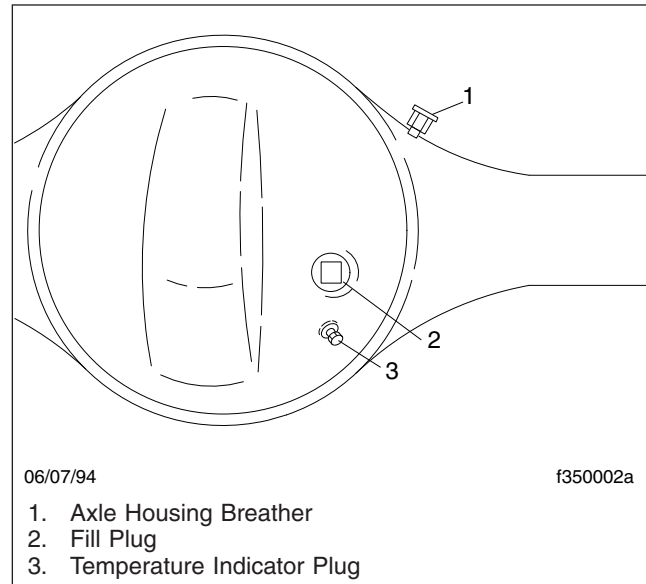

Fig. 8, Dana Spicer Axle Housing Breather
3. Clean the oil fill plug and the area surrounding it; see Fig. 8. Remove the plug from the fill hole (or standpipe, if installed in the oil fill hole).
6. Check the axle housing breather. Make sure that it is unclogged and free from corrosion. See Fig. 8. If the breather is plugged or damaged, clean or replace it as needed.